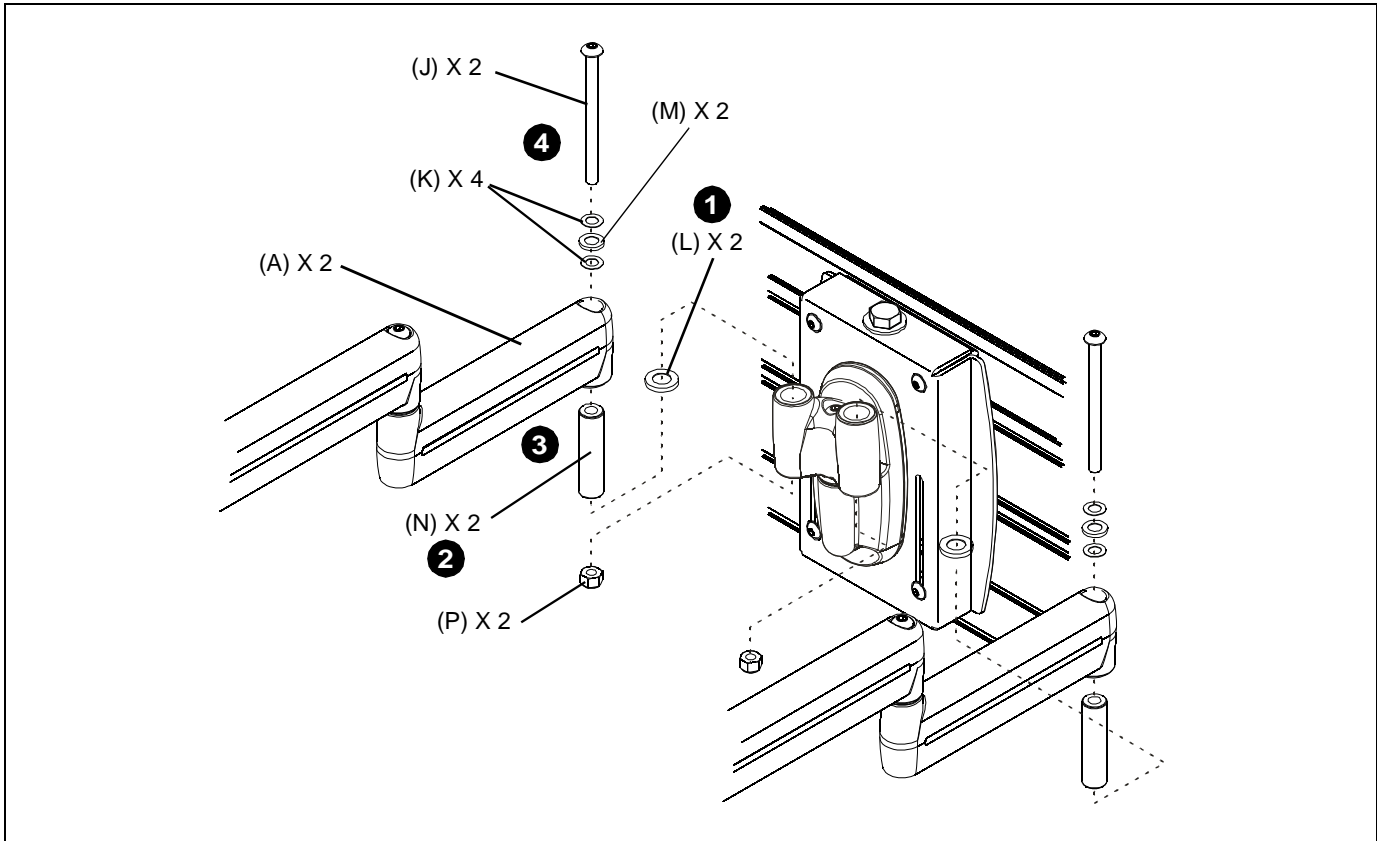

Figure 4
1. Insert pivot pin (N) into Y-connector upper bore.
2. Install spacer (L). (See Figure 4)
3. Insert arm assembly (A) on pivot pin (N).
4. While holding nut (P) in lower bore of Y-connector, insert screw (J) through washers (K), UHMW washer (M), arm assembly (A), spacer (L) and Y-connector, into nut (P). (See Figure 4)
5. Loosely install screw (J) using 3/16" hex key (F).
6. Repeat Steps 1. through 5. for second mount arm assembly (A).